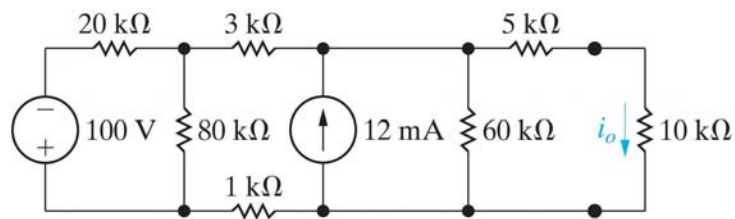

Figure 4
- (a) Find the current in the  $10\text{ k}\Omega$  resistor in the circuit in Fig. 4 by making a succession of appropriate source transformations.